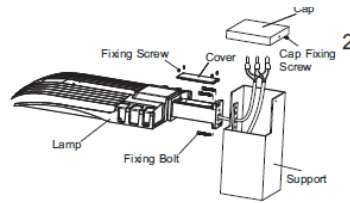

figure 3
1. Loosen cap fixing screw and take cap off. Loosen fixing bolt, fix the fixture on the support and tighten fixing bolts. (figure 3)